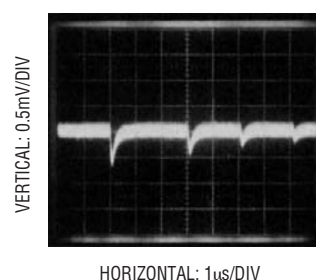

Figure 15. Adequate Reference Settling
2. Transients on the reference inputs caused by the capacitive switching currents must settle completely during each bit test (each 4 ACLK cycles). Figures 15 and 16 show examples of both adequate and poor settling. Using a slower ACLK will allow more time for the reference to settle. However, even at the maximum ACLK rate of 2MHz most references and op amps can be made to settle within the  $2\mu\text{s}$  bit time.